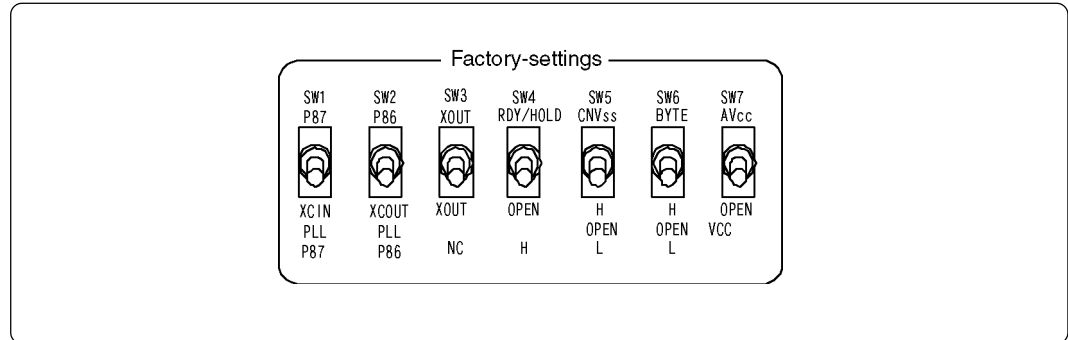

Figure 4.4 Switch settings when running the self-check
- (1) Set the switches in the emulation pod same as the factory setting (see Figure 4.4).
- (2) If the target system is connected, disconnect the target system.
- (3) Within 2 seconds of activating power to the emulator, press the RESET button on the emulator front panel to switch the emulator to maintenance mode.
- (4) Check the "SAFE" LED starts flashing and then press the RESET button again.
- (5) The self-check will start. If the normal result is displayed in about 1 minute, the self-check terminated normally.